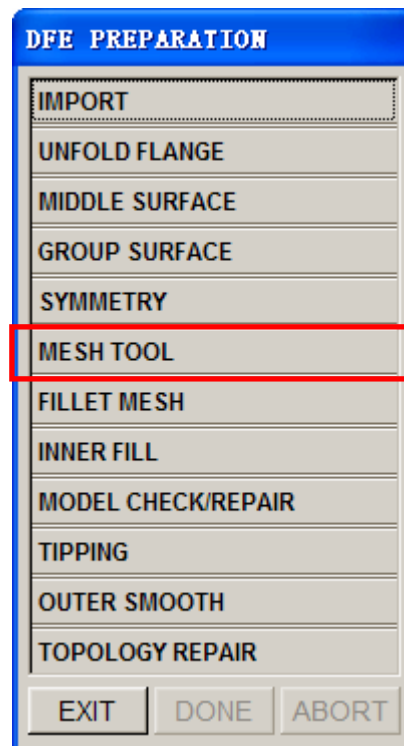

Figure 6 DFE Preparation menu
- Select **MESH TOOL** function in the **DFE Preparation** dialog box, as illustrated in Figure 6.